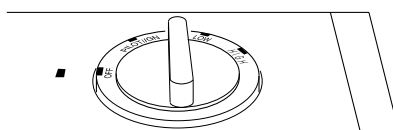

Figure 16 - Control Knob In The OFF Position (FB-10BA Shown)
3. Press in and turn control knob clockwise  to the OFF position (see Figure 16).
4. Wait five (5) minutes to clear out any gas. Then smell for gas, including near the floor. If you smell gas, **STOP!** Follow "B" in the safety information, column 1. If you don't smell gas, go to the next step.
5. Press in control knob and turn counterclockwise  to the PILOT/IGN position. Keep control knob pressed in for five (5) seconds.